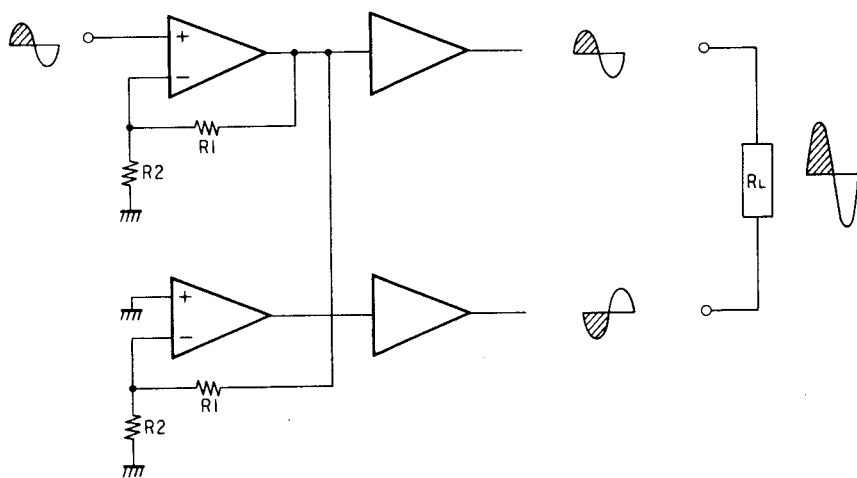

Figure 6
3. **BTL (Balanced Transformerless)** (See Figure 6)